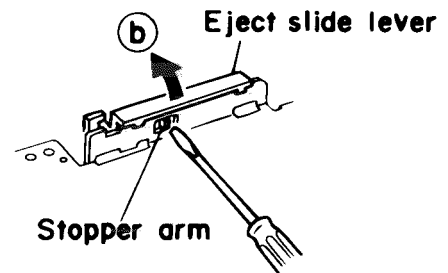

Fig.2-11
#### ■ Eject slide lever (Fig.2-11)
1. Place the cassette mechanism back side frontward and disengage the stopper arm (b) of the Eject slide lever by pressing it inwards through the opening of the chassis with a small screwdriver as shown in Fig.2-11.